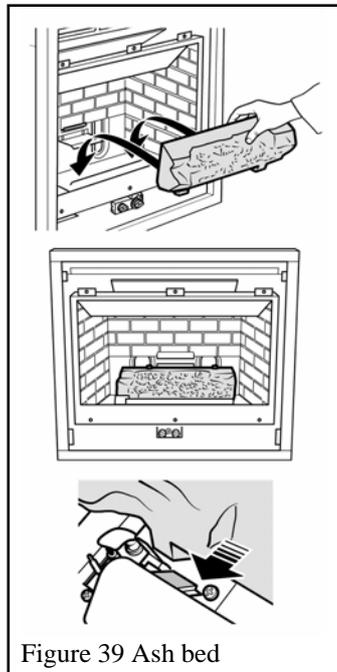

Figure 39 Ash bed
1. Place the ash bed in position. The projections at the front of the ash bed locate against the sloping metal stops immediately behind the burner. See figure 39.